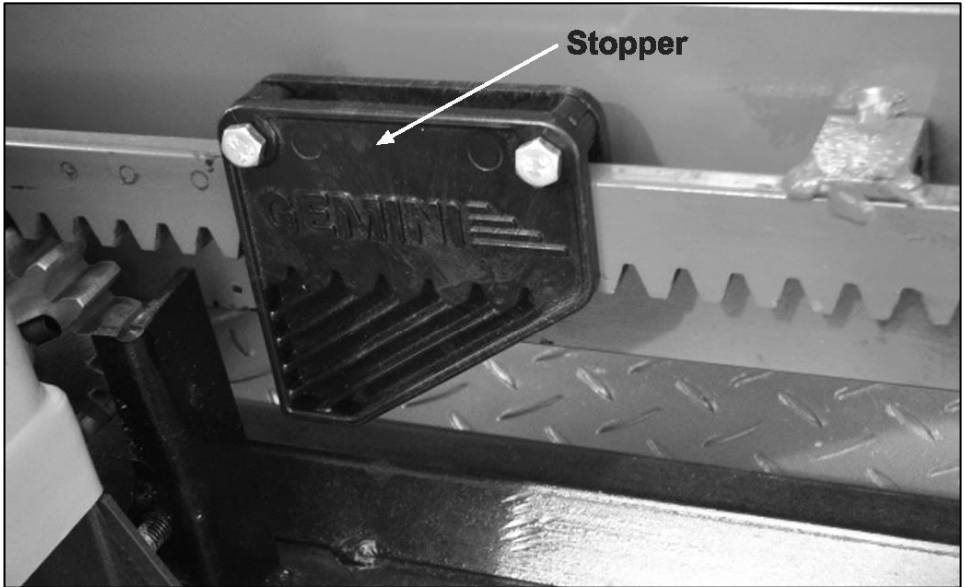

Figure 1
- **Please note that it is mandatory to install stoppers as indicated in Figure 1.**
- Mount mechanical stops on both ends of the rack to ensure that it prevents the gate from overrunning the fully open or closed position. (See Figure 1)